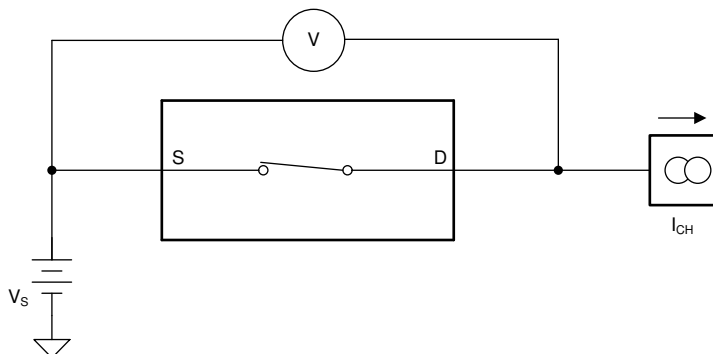

Figure 26. On-Resistance Measurement Setup
The on-resistance of the MUX36xxx is the ohmic resistance across the source (Sx, SxA, or SxB) and drain (D, DA, or DB) pins of the device. The on-resistance varies with input voltage and supply voltage. The symbol  $R_{ON}$  is used to denote on-resistance. The measurement setup used to measure  $R_{ON}$  is shown in Figure 26. Voltage (V) and current ( $I_{CH}$ ) are measured using this setup, and  $R_{ON}$  is computed as shown in Equation 1: